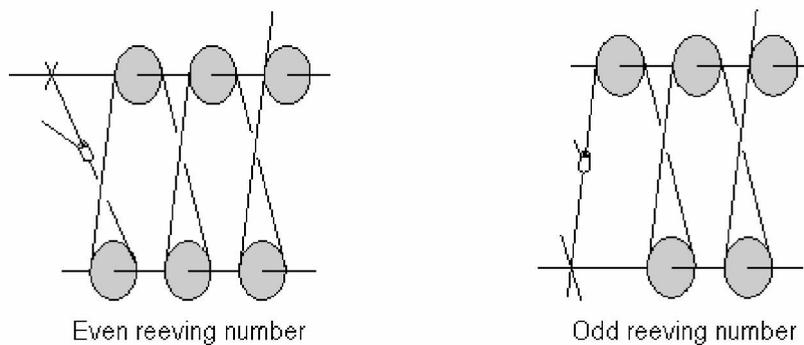

Fig. 04 – 40
- (1) You must change the location of the hoisting limit switch weight if you have a different number of wire rope reevings. See Fig. 04 – 40.